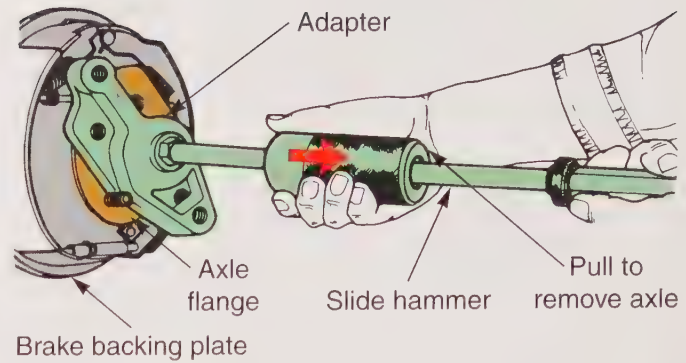

Figure 17-5. Remove the axle with a slide hammer, if necessary. (Chrysler)
6. Once the nuts are loose, the flange, axle, retainer plate, and bearing can be pulled out of the housing as a unit. If the axle and bearing stick in the housing, a slide hammer can be used to loosen the axle. See **Figure 17-5**.